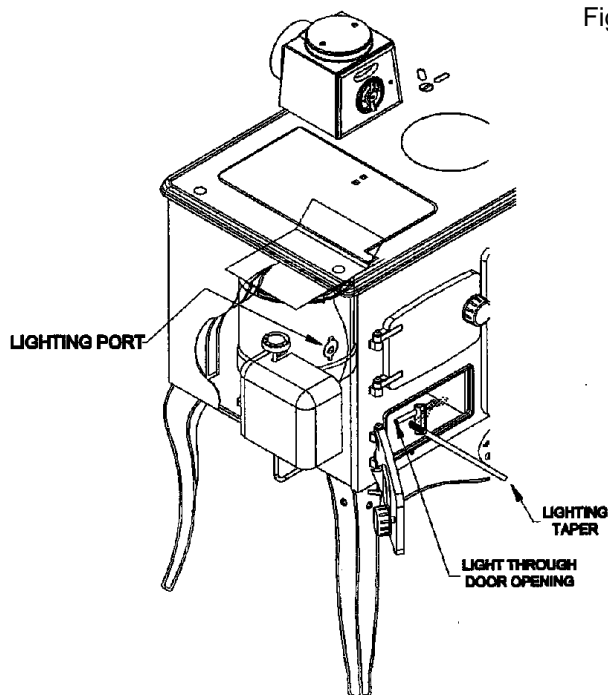

Fig.25
8. Turn the control valve to 6 and after 10 minutes, light the stove through the lighting port as shown in Fig.25.
2. Light the burner by putting a lighted paper or taper through the lighting port (See Fig.25).